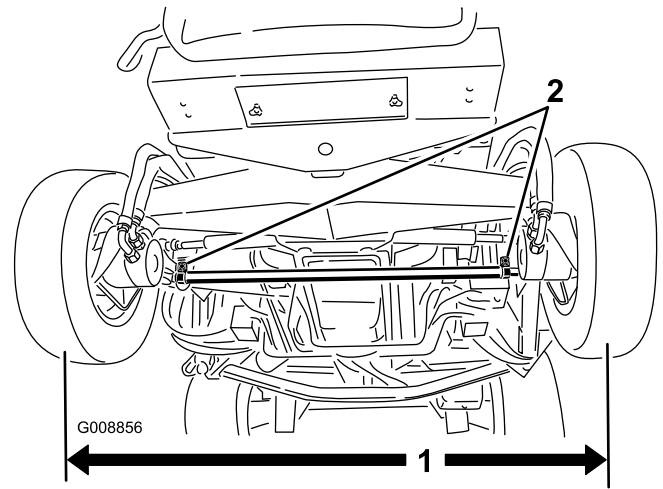

Figure 75
2. To adjust, loosen the clamps at both ends of the tie rods (Figure 75).
1. Measure the center-to-center distance (at axle height) at the front and rear of the steering tires (Figure 75). The front measurement must be no greater than 0.00"-0.12" less than the rear measurement.